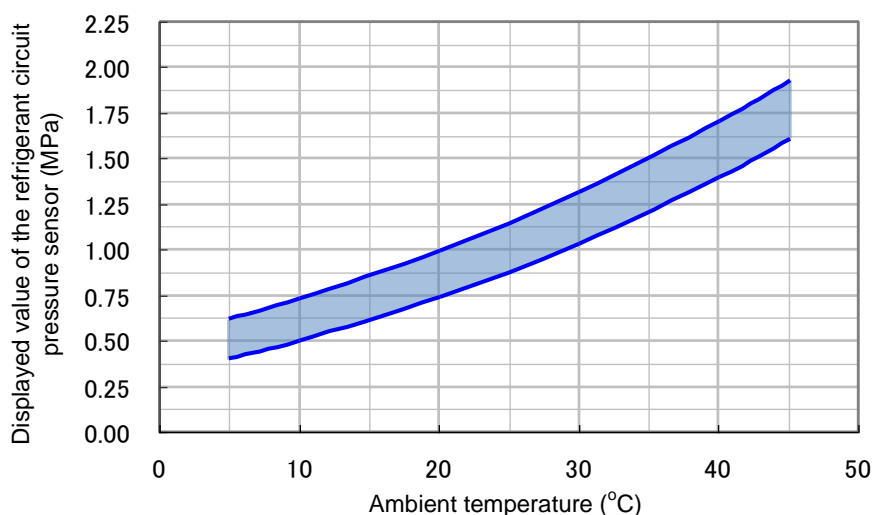

Fig. 3.3-8 Ambient temperature and refrigerant circuit pressure
- (1) Leave the Thermo-Chiller not operating for 24 hours to make the ambient temperature and the temperature inside the Thermo-Chiller the same.
- (2) Check the ambient temperature.
- (3) Check the "Ph: Refrigerant circuit pressure on the high pressure side" value in the "Check Monitor Menu".
- (4) Check if the value at the cross point of the ambient temperature and the "Ph: Refrigerant circuit pressure on the high pressure side" value is within the range (the shaded part) in Fig. 3.3-8. If the cross point is within the range, it means that the pressure sensor is operating correctly.
- (3) Check "PL: Refrigerant circuit pressure on the low pressure side" value in the "Check Monitor Menu".
- (4) Check if the value at the cross point of the ambient temperature and the "PL: Refrigerant circuit pressure on the low pressure side" value is within the range (the shaded part) in Fig. 3.3-8. If the cross point is within the range, it means that the pressure sensor is operating correctly.